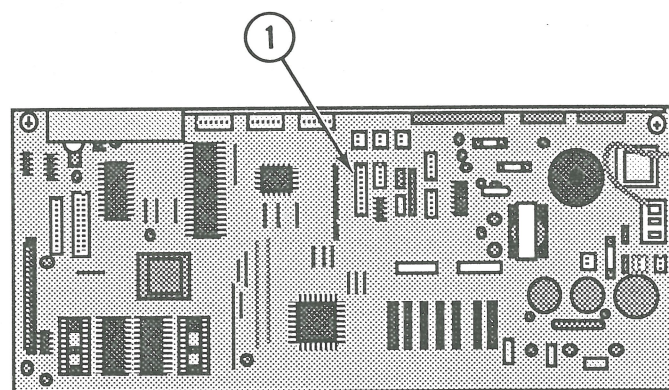

FIGURE 13
- 2. Disconnect the color ribbon assembly cable from main board connector CN7 (Figure 13, #1).